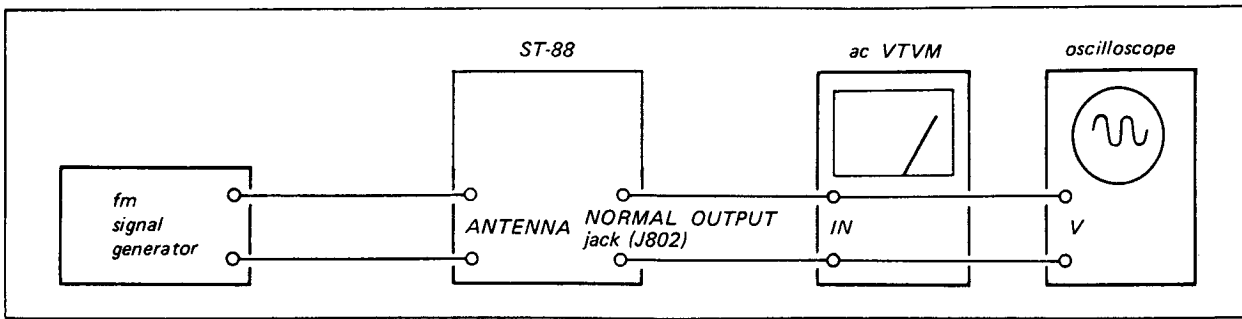

Fig. 3-7. Fm frequency coverage and tracking alignment test setup
1. Connect the equipment as shown in Fig. 3-7.